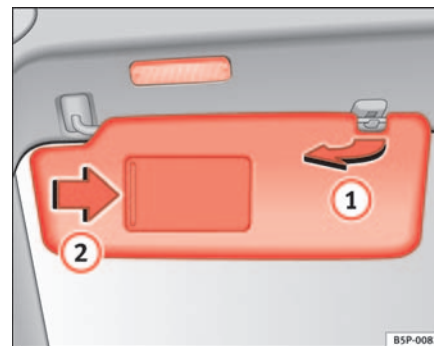

Fig. 85 Sun visor on the
The sun visors for the driver and the front passenger can be pulled out of their mountings in the centre of the vehicle and turned towards the doors ⇒ fig. 85 ①. ▶